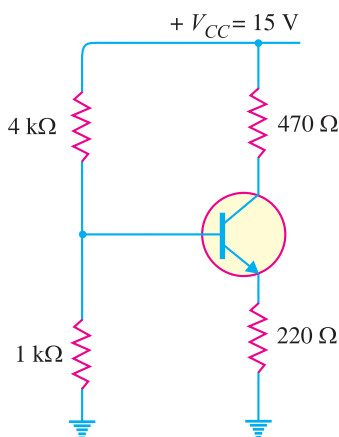

Fig. 9.50
7. In the transistor circuit shown in Fig. 9.50, find the operating point. Assume the transistor to be of silicon. [$I_C = 10.5\text{mA}$, $V_{CE} = 7.75\text{V}$]